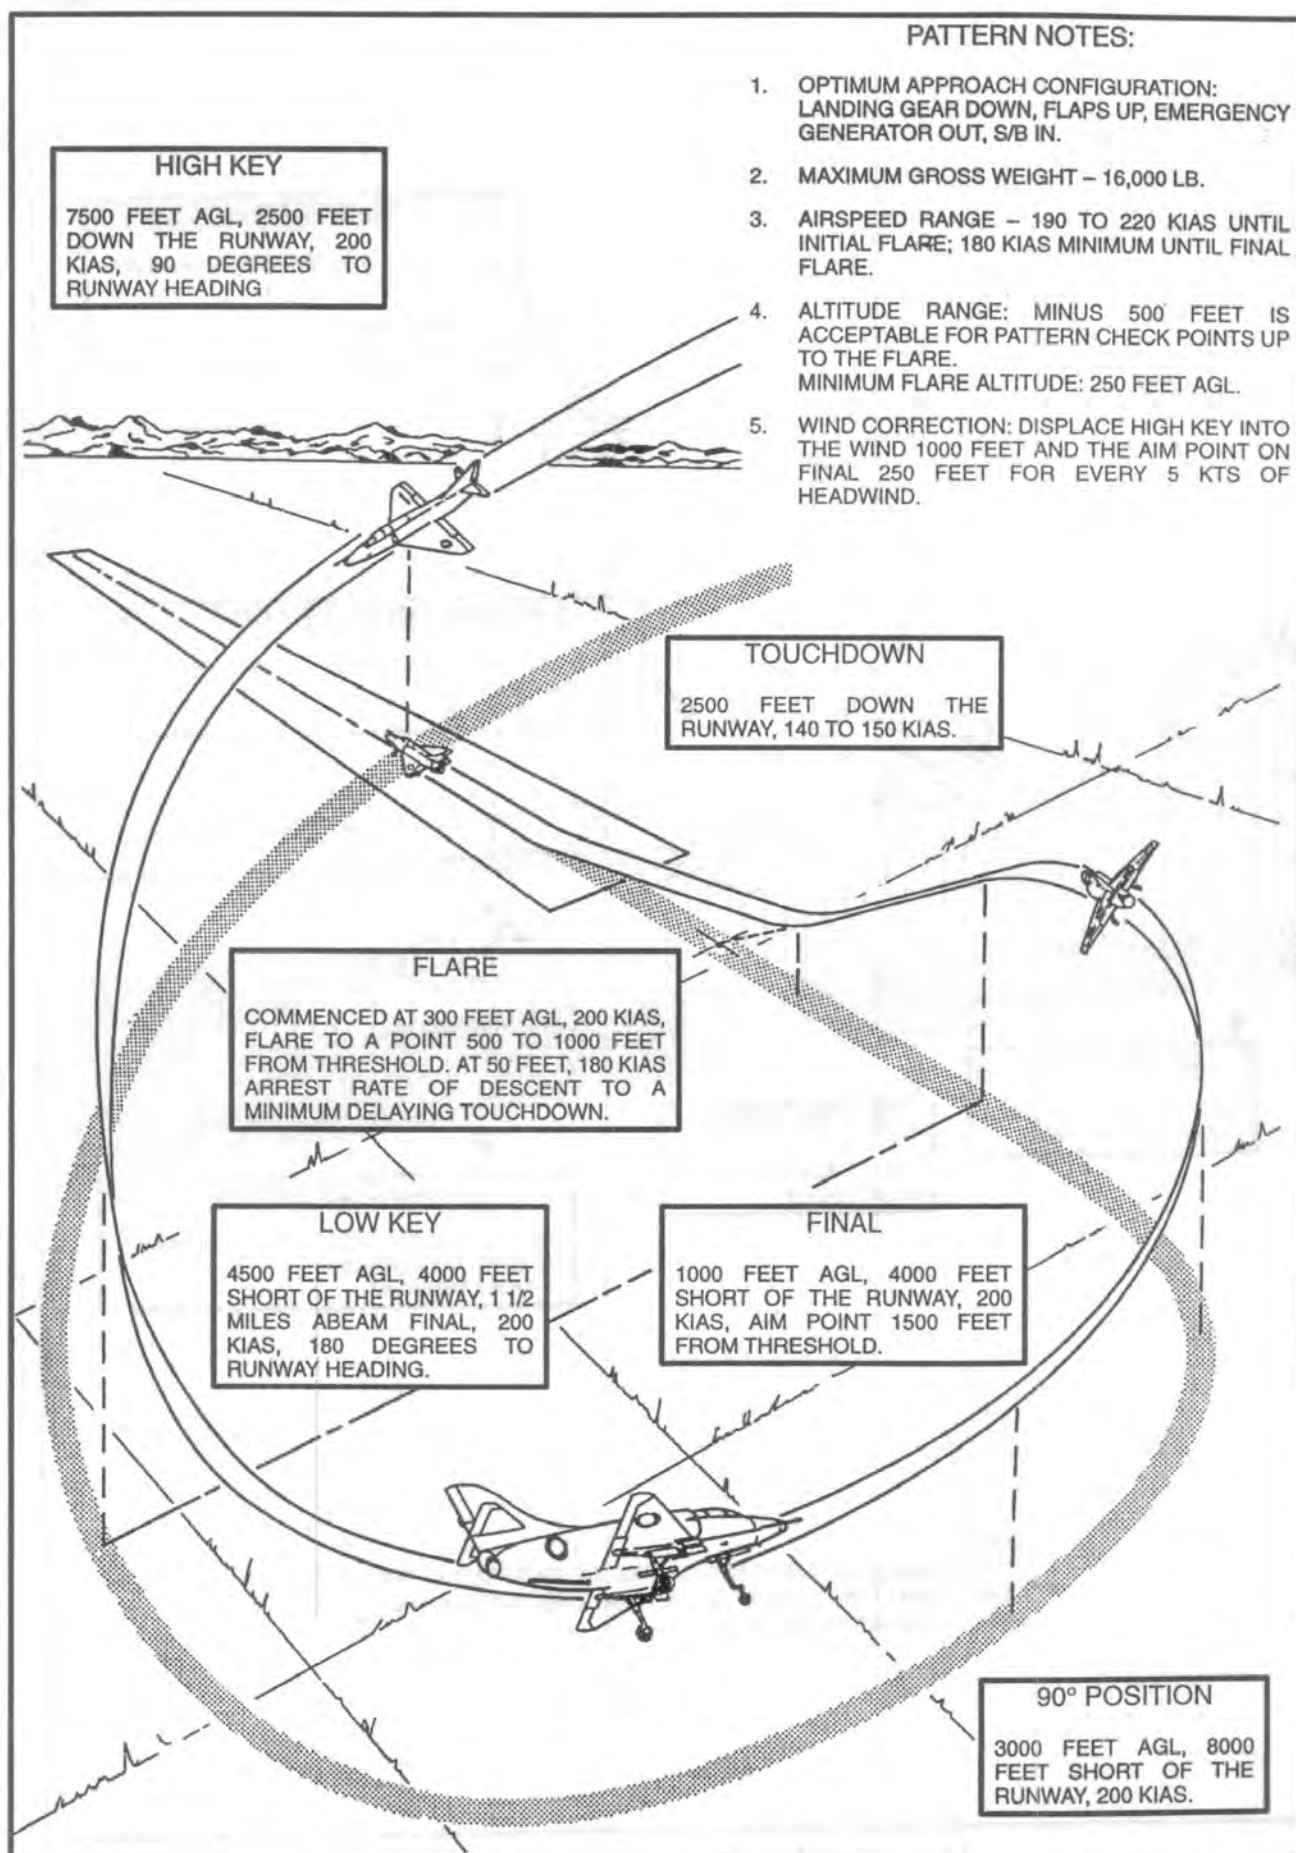

Figure 5-4 High Precautionary Approach
5.54 If it is impossible to eject/abandon aircraft following a flameout, an HPA and landing may be attempted utilizing the procedures depicted in Figure 5-4.